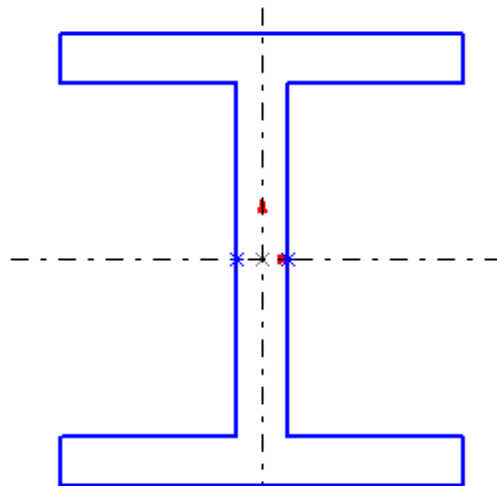

Figure 2-48 Final sketch for Tutorial 2
- f. Modify the sketch by dragging the sketched entities, refer to Figure 2-48.
The final sketch after modifying the sketched entities by dragging is shown in Figure 2-48.